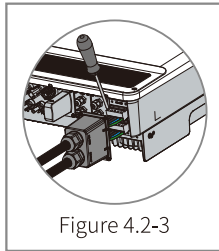

Figure 4.2-3
- **On-grid & back-up connection:** Confirm on-grid connected to power grid and back-up connected to loads: polarities (L1/L2/L3/N are in sequence) are not reversed, refer to figure 4.2-3.